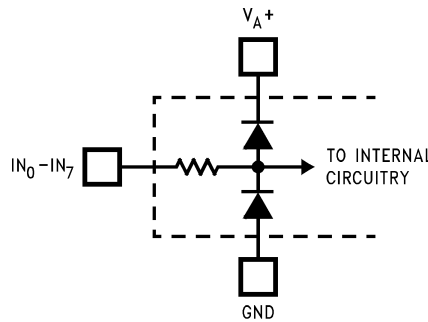

Figure 3.
- Two on-chip diodes are tied to each analog input through a series resistor, as shown below. Input voltage magnitude up to 5V above  $V_{A+}$  or 5V below GND will not damage the LM12L458. However, errors in the A/D conversion can occur if these diodes are forward biased by more than 100 mV. As an example, if  $V_{A+}$  is 3.0  $V_{DC}$ , full-scale input voltage must be  $\approx 3.1 V_{DC}$  to ensure accurate conversions. See Figure 3
- (1) Two on-chip diodes are tied to each analog input through a series resistor, as shown below. Input voltage magnitude up to 5V above  $V_{A+}$  or 5V below GND will not damage the LM12L458. However, errors in the A/D conversion can occur if these diodes are forward biased by more than 100 mV. As an example, if  $V_{A+}$  is 3.0  $V_{DC}$ , full-scale input voltage must be  $\approx 3.1 V_{DC}$  to ensure accurate conversions. See Figure 3
- (2)  $V_{A+}$  and  $V_{D+}$  must be connected together to the same power supply voltage and bypassed with separate capacitors at each  $V^+$  pin to assure conversion/comparison accuracy.
- (3) Accuracy is ensured when operating at  $f_{CLK} = 6$  MHz.
- (4) Typical figures are at  $T_A = 25^\circ C$  and represent most likely parametric norm.
- (5) Limits are specified to AOQL (Average Output Quality Level).
- Two on-chip diodes are tied to each analog input through a series resistor, as shown below. Input voltage magnitude up to 5V above  $V_{A+}$  or 5V below GND will not damage the LM12L458. However, errors in the A/D conversion can occur if these diodes are forward biased by more than 100 mV. As an example, if  $V_{A+}$  is  $3.0 V_{DC}$ , full-scale input voltage must be  $\approx 3.1 V_{DC}$  to ensure accurate conversions. See Figure 3